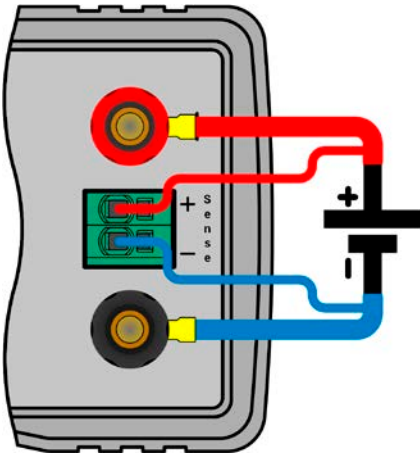

Figure 12 - Example for remote sensing wiring
- Remote sensing is only effective during constant voltage operation (CV) and for other regulation modes the sense input should be disconnected, if possible, because connecting it generally increases the oscillation tendency.
- Sensing cables must be connected + to + and - to - at the source, otherwise the sense input of the electronic load can be damaged. For an example see *Figure 12* below.